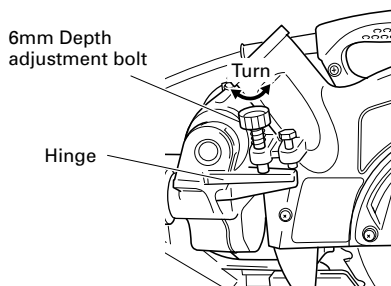

Fig. 11
To adjust the lower limit position of the saw blade, follow the procedure (1) shown in Fig. 11.
- (1) Lower the motor head, and turn the 6 mm depth adjustment bolt and make adjustments so that there can be a clearance of 5/64" to 1/8" (2 mm to 3 mm) between the lower limit position of the motor head and the top of the workpiece at the saw blade's lower limit position where the head of the 6 mm depth adjustment bolt contacts the hinge.